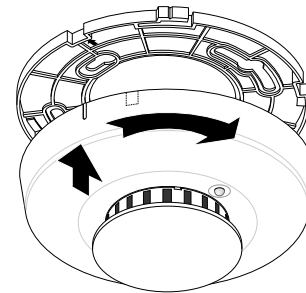

Figure 5. Mounting
- Line up the raised tab on the side of the detector with the arrow on the mounting base. See Figure 5.